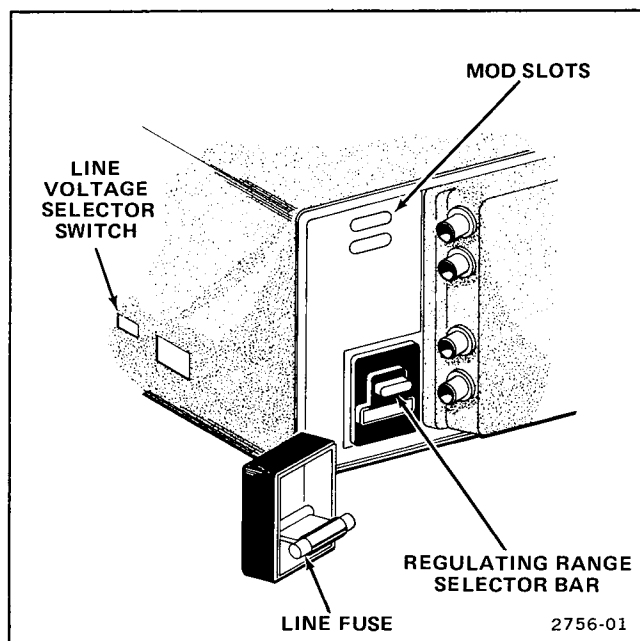

Figure 2-2. Regulating range selector and line fuse.
3. Pull out the selector bar (see Figure 2-2). Select a range from Table 2-2 centered about the average line voltage, and plug the selector bar into the desired position.